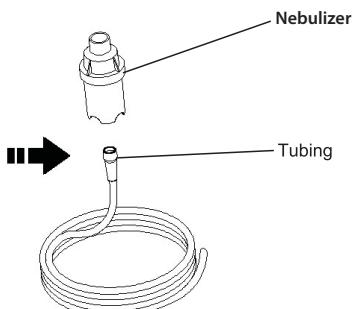

Figure 5-2
9. Firmly press the other end of the tubing onto the bottom of the nebulizer cup (Figure 5-2).